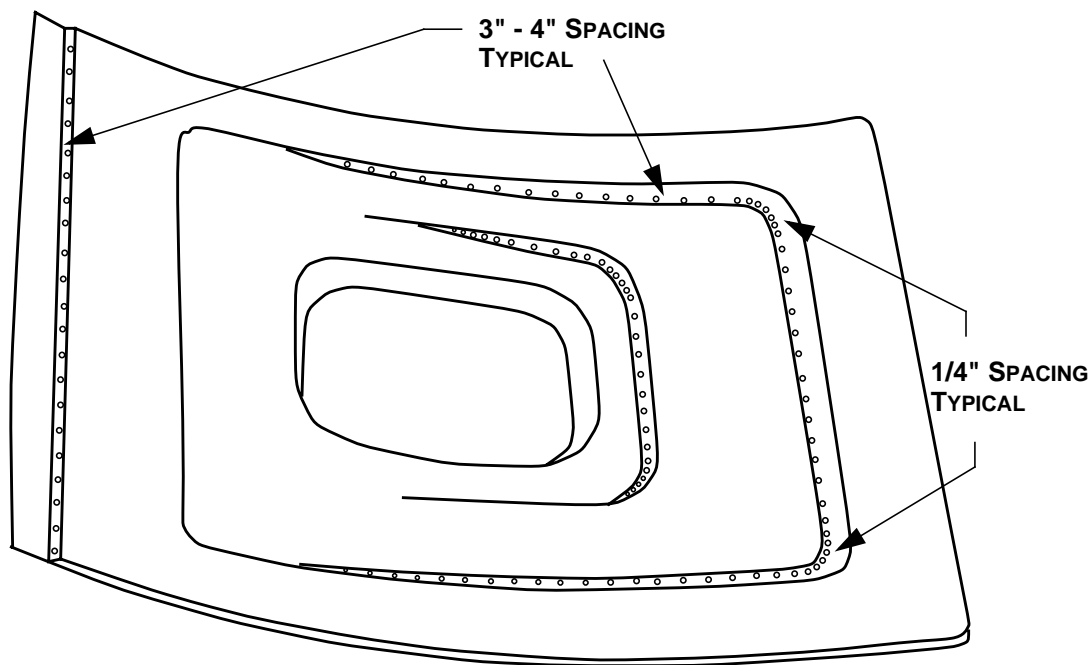

FIGURE 1 - AIR BLEED HOLES
- Step 1. Drill 1/64" diameter air bleed holes in the window reveal at all locations where air may be entrapped during the vacuum forming process. Ensure that the holes penetrate completely through the part, including the inner skin on honeycomb panels. A 1/4" spacing is typical for deep draw or sharp bend areas, while a spacing of 3" - 4" may be sufficient in shallow draw or gentle bend areas (see Figure 1).